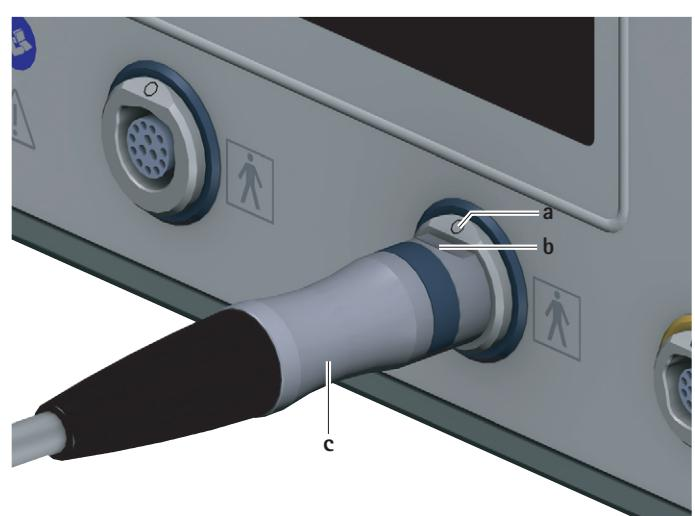

Fig. 3 Connecting the motor cable
- Position connector for control unit c on the motor cable so that marking b on the connector is aligned with marking a on the connection socket for applied parts 7, see Fig. 3.
- Unplug the motor cable on the connector for control unit **c** from the connection socket for applied parts **7**, see Fig. 3.